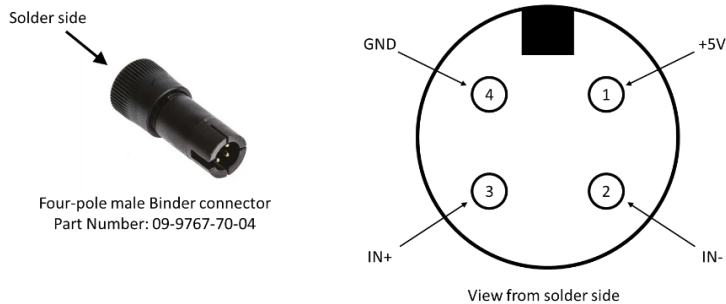

FIG. 7.3: Details on SyncStation load cell connector
- Auxiliary input for load cells: in addition to the three generic auxiliary inputs described above there is an additional input dedicated to the connection and to power supply a load cell (signal to be amplified). The connector in question has four contacts and on two of them there is a stabilised 5V supply for the Wheatstone bridge of the load cell. The pinout of the connector is shown in figure 7.3. The channel amplifies the load cell signal with a gain of 205 V/V and filters the low pass signal at 15 Hz.